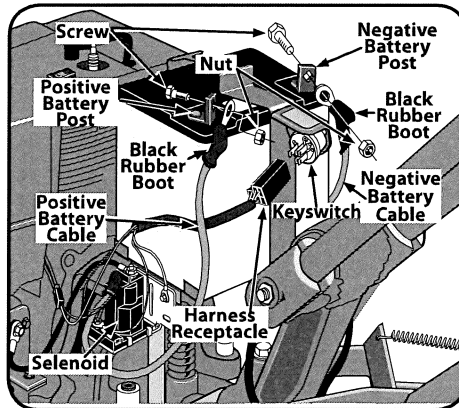

Figure 3-14
1. Before installing the battery and its hold-down clamp, insert the plastic wire harness receptacle into the prongs of the keyswitch located on the hold-down clamp. See Figure 3-14.
2. Remove the ignition keys from the keyswitch and store them safely away. Do not insert the key into the keyswitch until you complete this section and read the Operation section. See Figure 3-14.
3. Use a 5/8" long screw and 1/4-20 hex nut to connect the positive (+) battery cable to the positive (+) battery post. Make sure that this is the cable on the left side, with one end attached to the selenoid. See Figure 3-14.
4. Slide the black rubber boot completely over the battery post and cable connector. See Figure 3-14.
5. Use a 5/8" long screw and 1/4-20 hex nut to connect the negative (-) battery cable to the negative (-) battery post and secure with screw and nut. See Figure 3-14.
6. Slide the black rubber boot completely over the battery post and cable connector. See Figure 3-14.